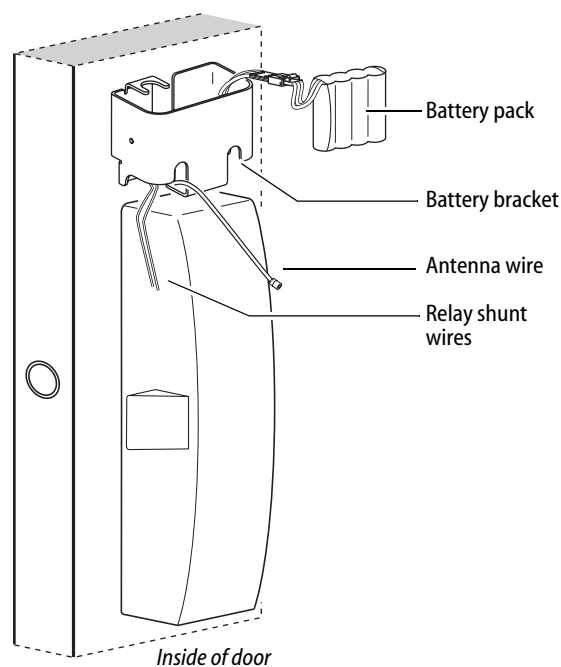

Figure 29 Connecting the battery pack
- 1 Connect the battery pack to the battery connector on the wire harness as shown in Figure 29.